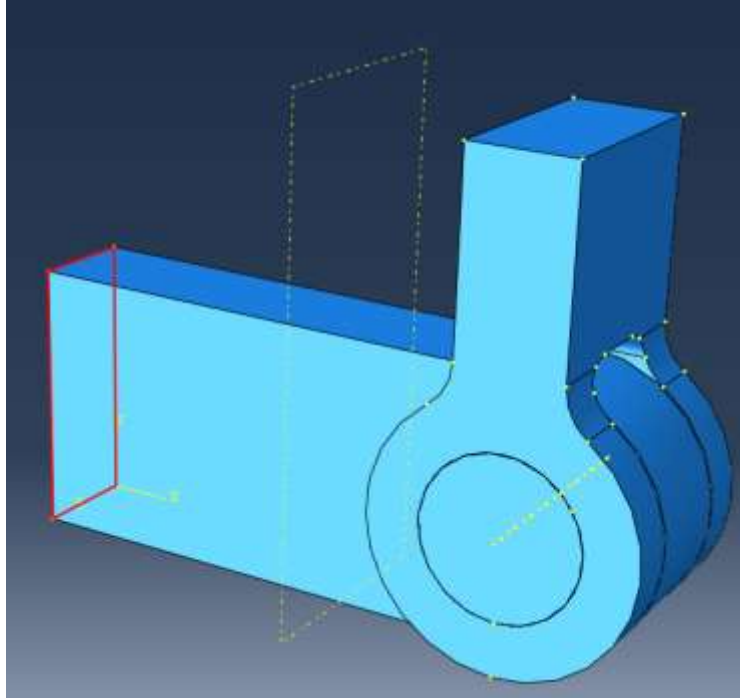

Figure W1–10 Correct face selected.
3. In the select options box  deselect **Select the Entity Closest to the Screen**  so that you can pick the desired face, as shown in Figure W1–10.